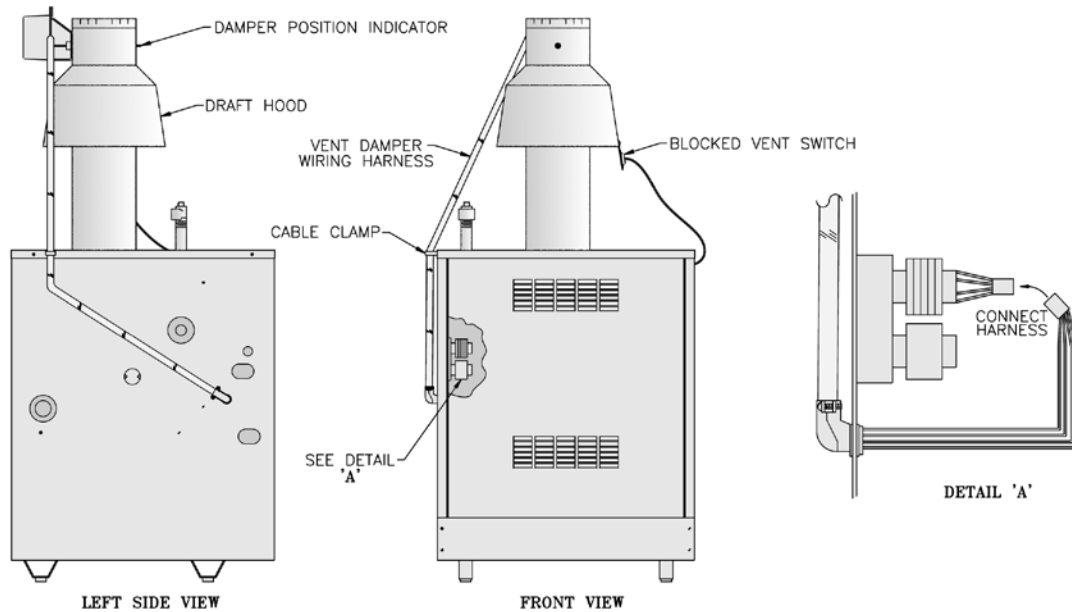

Figure 7: Plug-in Damper Installation
- B. Mount the vent damper assembly after the draft hood, as close to the draft hood as practicable without modification to the draft hood or vent damper. (Refer to Figure 7 and to instructions packed with the vent damper for specific instructions). This is a must for the wiring harness to fit and the damper position indicator to be visible to the users.
- C. Install the 90° BX connector attached to the flexible conduit in the 7/8" knockout on the left side of the jacket. Plug the factory wired Vent Damper Harness into the polarized receptacle. Install a cable clamp around the flexible conduit and attach to the Jacket top panel. (See Figure 7).
Please refer to the specifications, installation instructions and troubleshooting guide packed in the vent damper carton for complete detailed installation instructions. Also refer to Figure 7 in this manual.